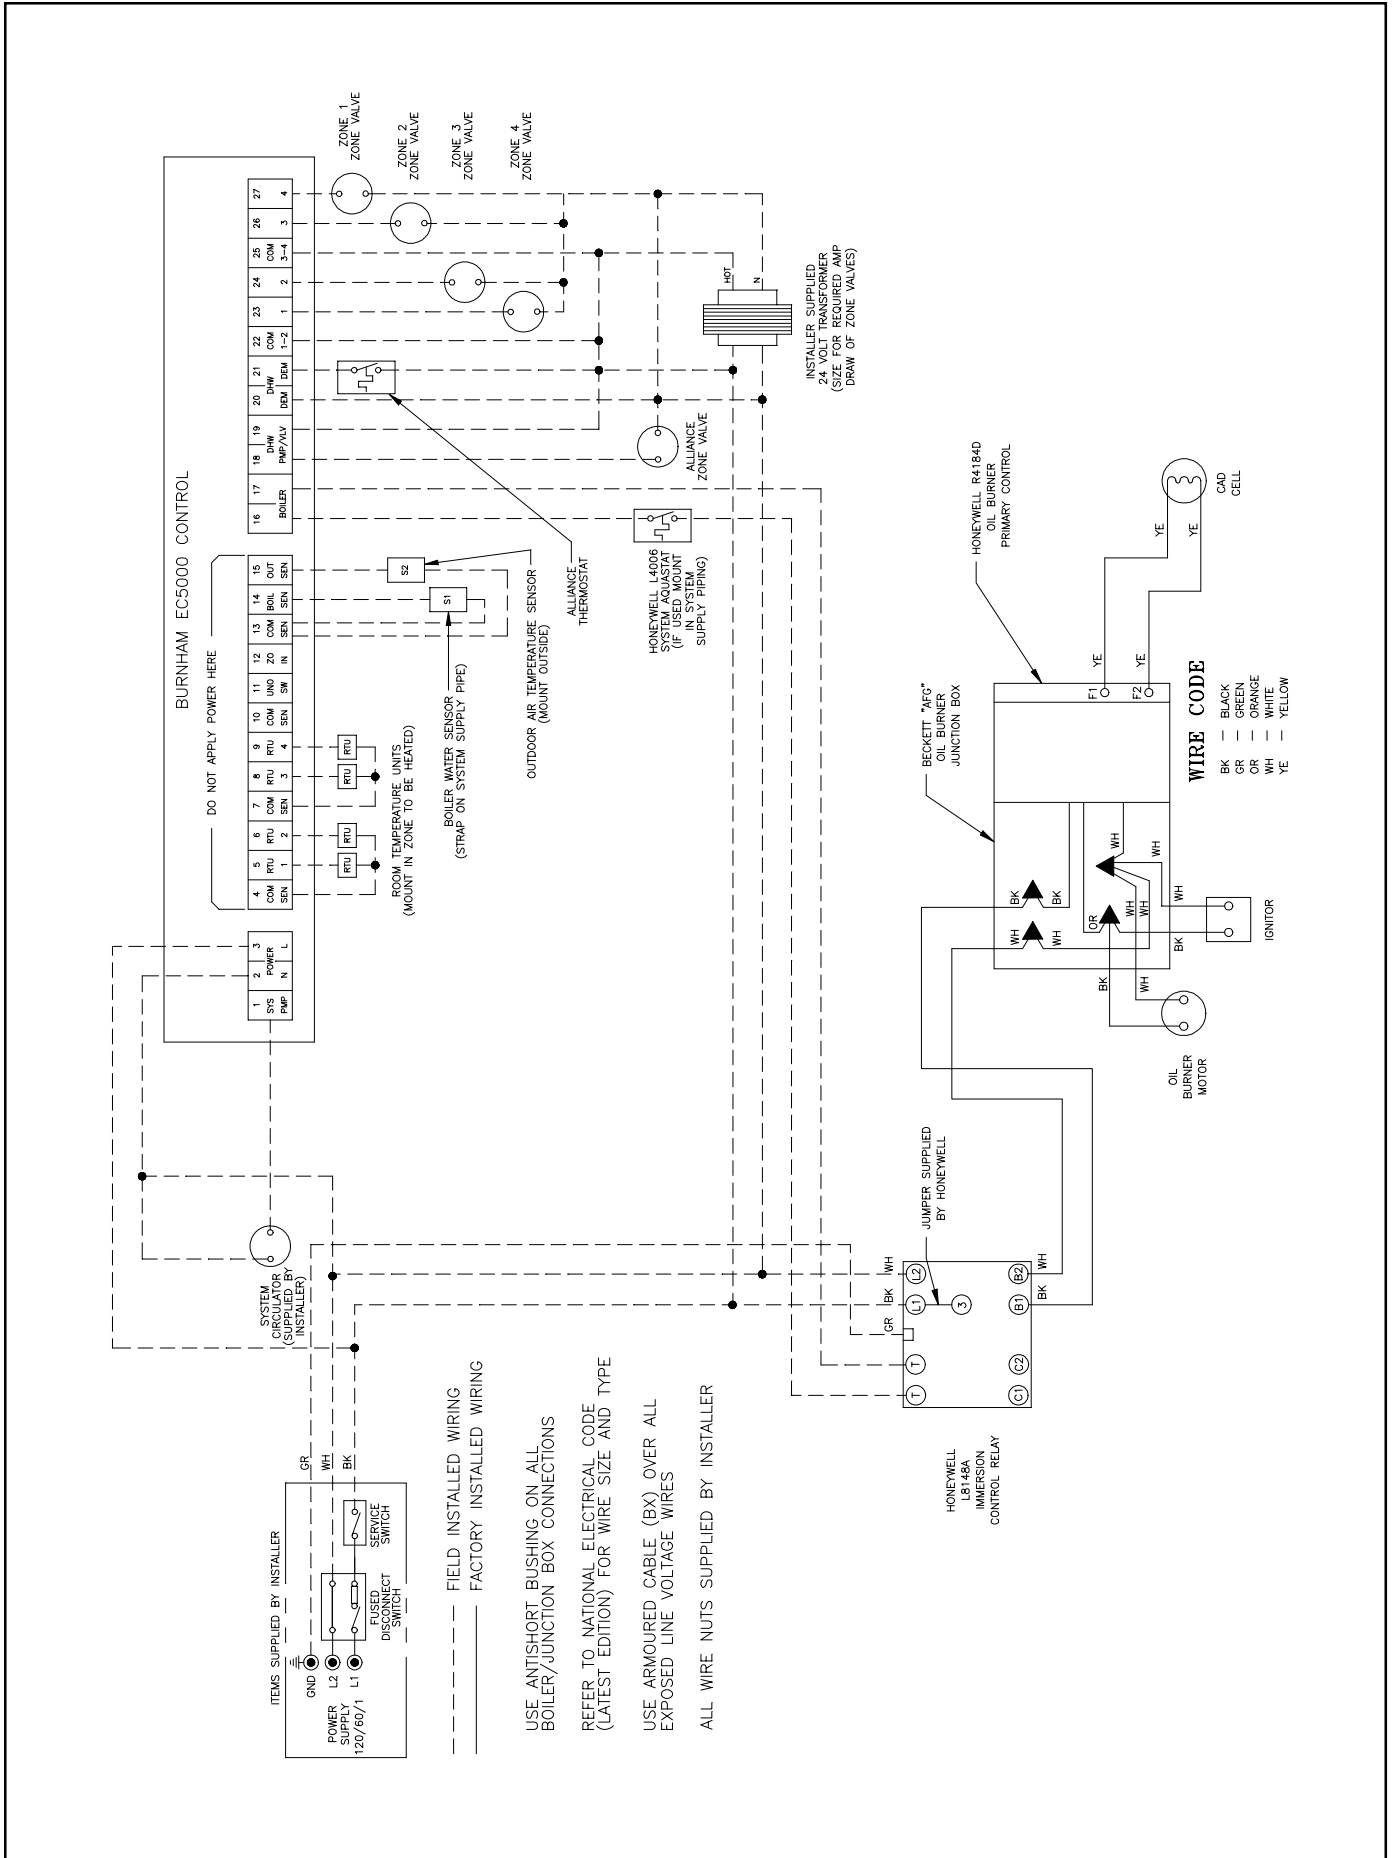

Figure 20: Zone Valve Zoned with EC5000 Wiring Schematic
9. Burnham EC5000 Zone Valve Zoned System – Refer to Figure 20 of this manual for the electrical diagram for this type of system. Wire the system as indicated in that diagram. Refer to the manual provided with the Burnham EC5000 for control operation and setup details.